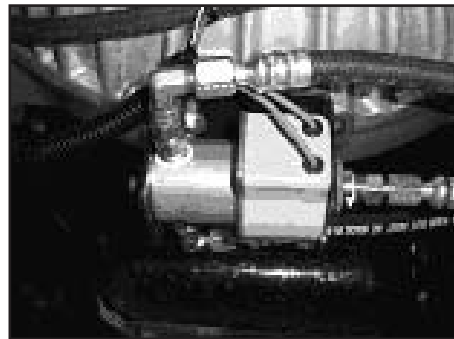

Figure 29
3. One recommendation for installation of the PTO. Remote Solenoid Valve is to locate it at the bottom forward area of the transmission housing (**Fig. 29**).